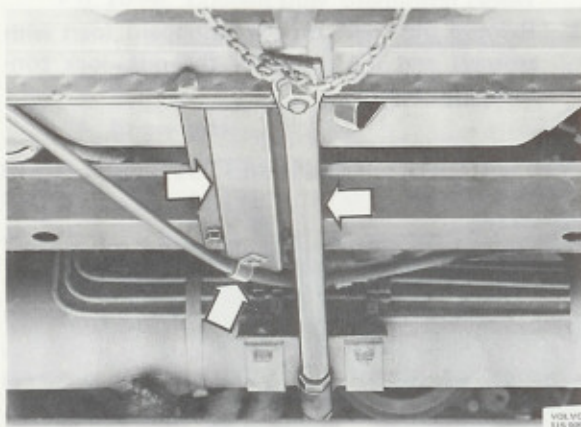

Fig. 26-9. Removing parts under the radiator
6. Remove the bumper centre stay and the clamp for the clutch wire, Fig. 26-9.
7. Remove the member under the radiator, Fig. 26-9. Move the wires to the one side and take down the radiator.